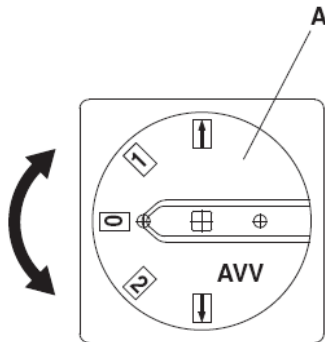

Fig.18
**(Fig. 18)**
- Keuzeschakelaar (A)